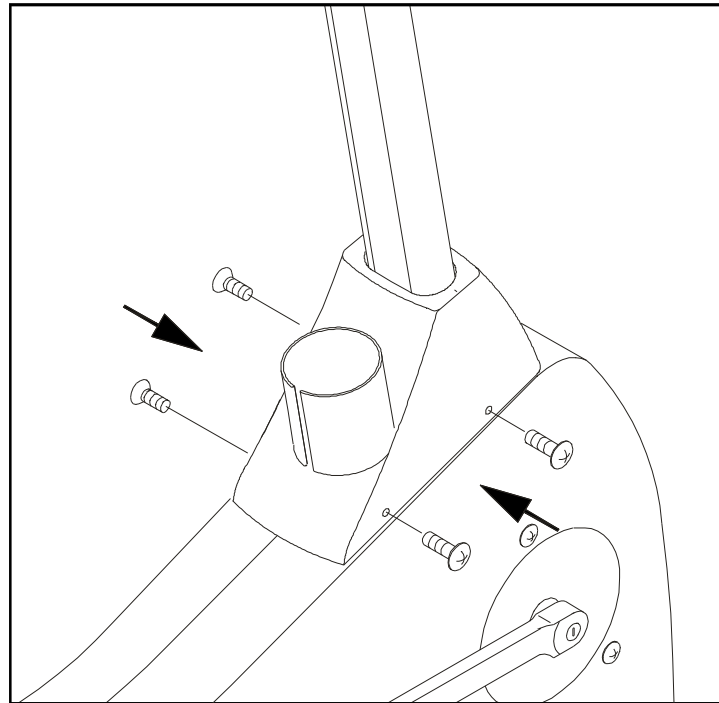

Fig.3
5. Use 4 pcs screws provided to secure the upright post cover (see Fig.3).